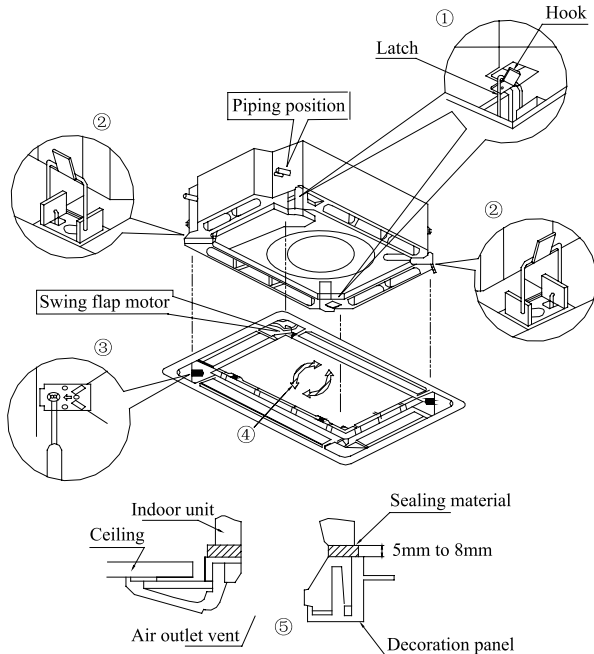

Fig.13
(1). Set the panel to the indoor unit body by matching the position of the swing flap motor of the panel to the piping position of the panel to the piping position of the indoor unit as shown by fig.13.
- ① . Install the panel on the indoor unit temporarily. When install, hang the latch on the hook that is located on the opposite side of the swing flap on the panel of the indoor unit. (2 positions)
- ② . Hang the remaining 2 latches to the hooks on the sides of the indoor unit.(Be careful not to let the swing motor lead wire get caught in the sealing material.)
- ③ . Screw the 4 hexagon head screws under the latches in about 15mm. (The panel would rise)
- ④ . Adjust the panel by turning it toward the direction pointed by the arrow as shown in fig.13, so that the adjust board connect the ceiling well.
- ⑤ . Tighten the screws until the thickness of the sealing material between panel and indoor unit reduced to 5-8mm.